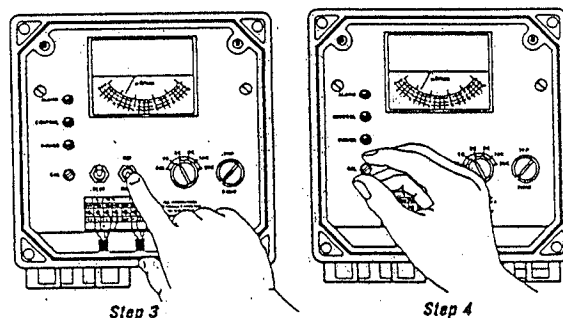

Fig. 7, System Calibration
3) Position Set/Read Switch in the "Read" position (See Fig. 7, Step 3).
5) Adjust Cal Adjust knob until the meter on ABC matches the reading on the calibrated hand held meter. Your unit is now calibrated (See Fig. 7, Step 4).